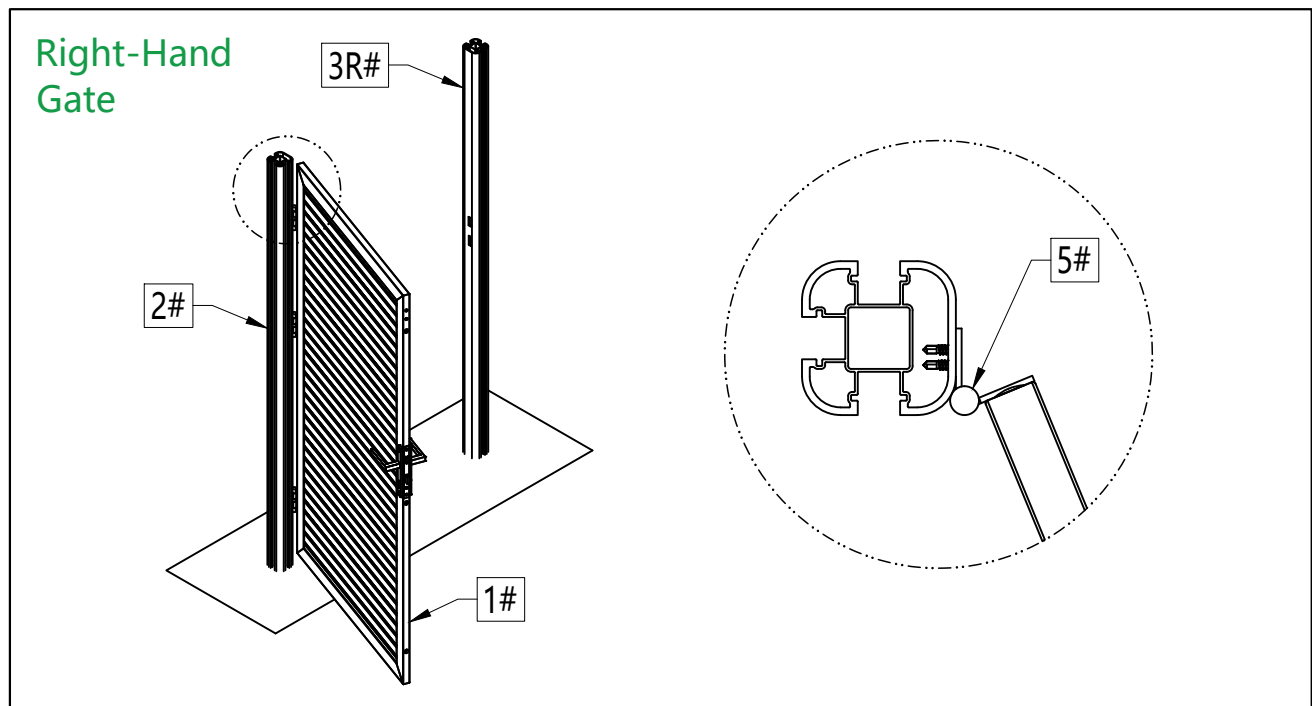
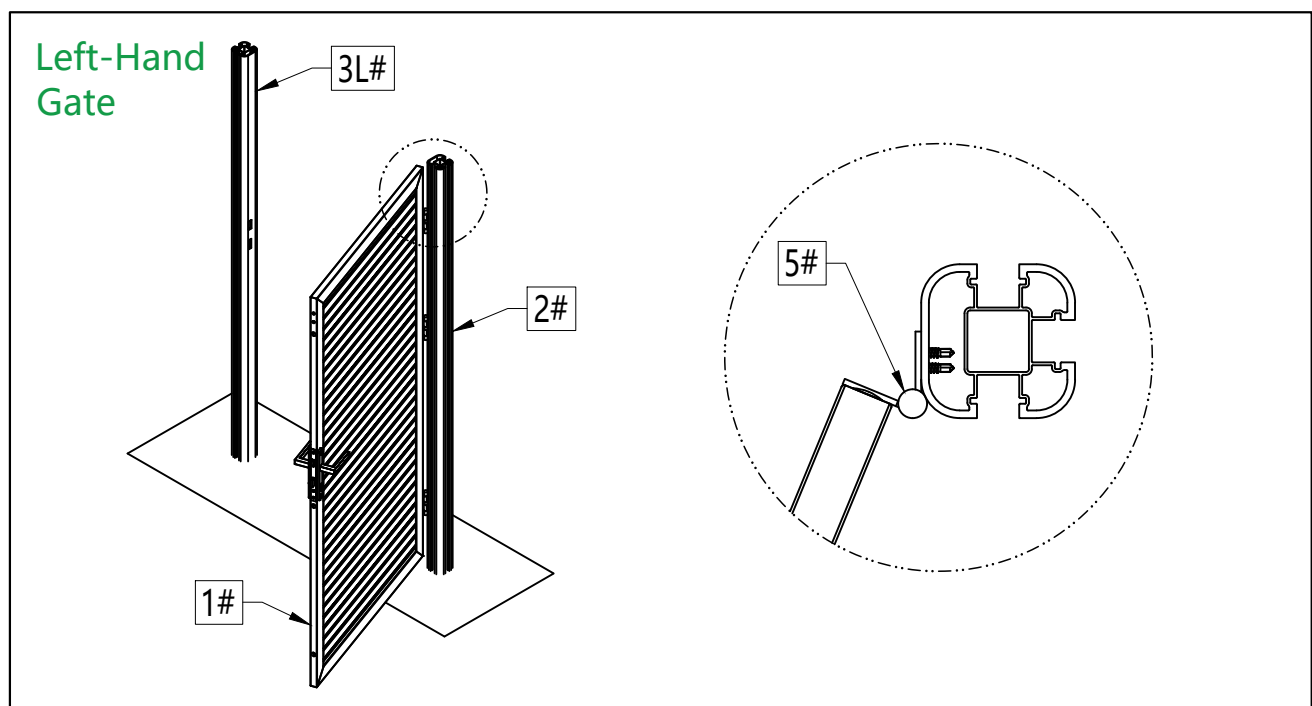

Figure 8.1
Figure 8.2
- 8 Determine the Hinge (5#) installation position according to the opening direction of the Fence Gate (1#), as shown in Figure 8.1 and Figure 8.2.